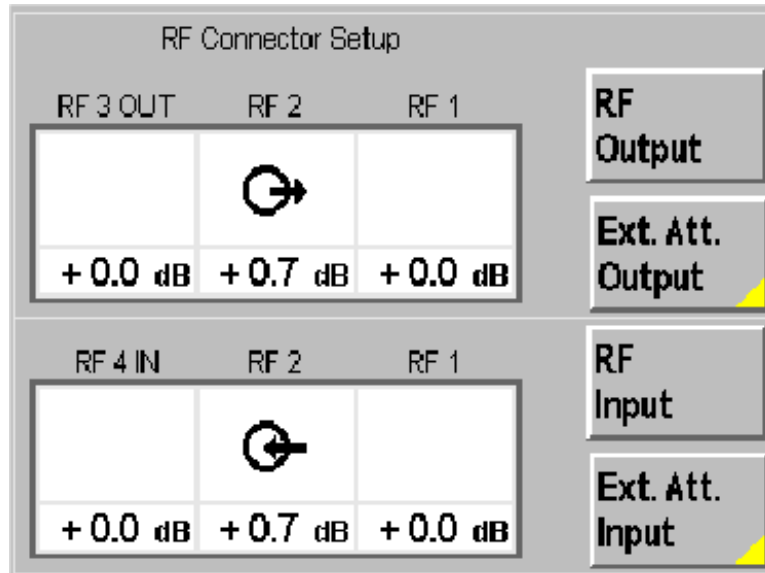

Fig. 9 CMU RF Connector Setup
15. Enter cable loss for mobile uplink (TX) with CMU RF External Attenuation Input control (e.g. 0.7 dB, see Fig. 9).